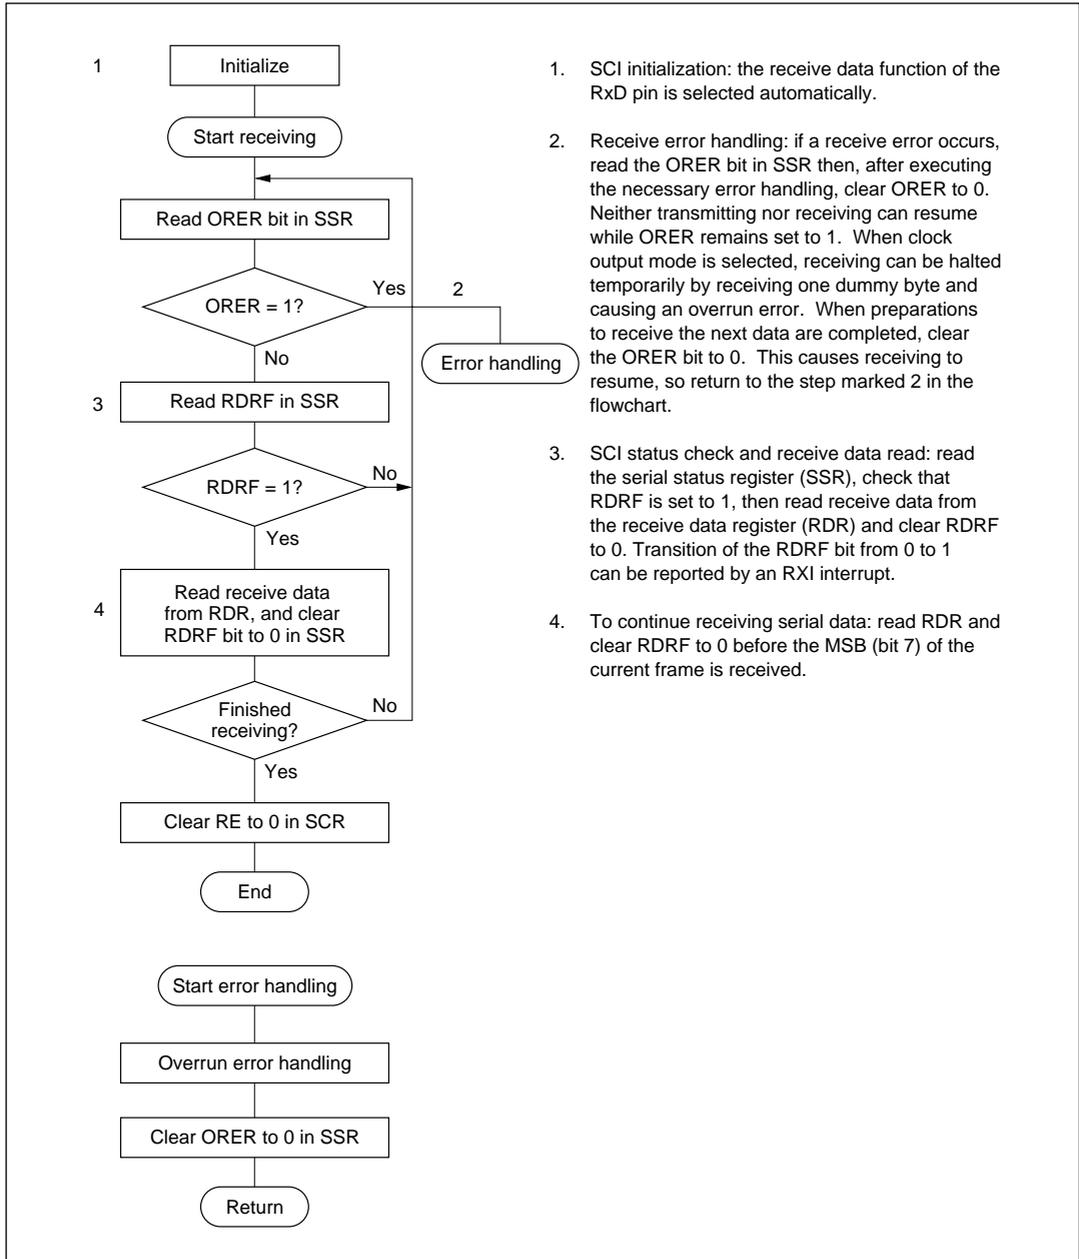

Figure 12-15 Sample Flowchart for Serial Receiving
- Receiving Serial Data:** Follow the procedure in figure 12-15 for receiving serial data. When switching from asynchronous mode to synchronous mode, be sure to check that PER and FER are cleared to 0. If PER or FER is set to 1 the RDRF bit will not be set and both transmitting and receiving will be disabled.